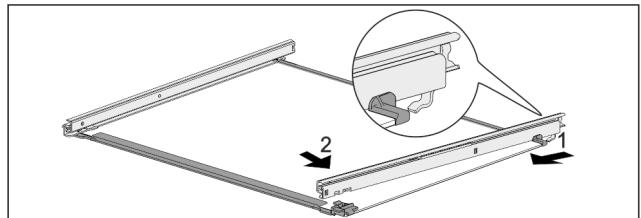

Fig. 118 Glass shelf with rails
- ▶ Hook in rail at the back. Fig. 118 (1)
- ▶ Hook in rail at the front. Fig. 118 (2)